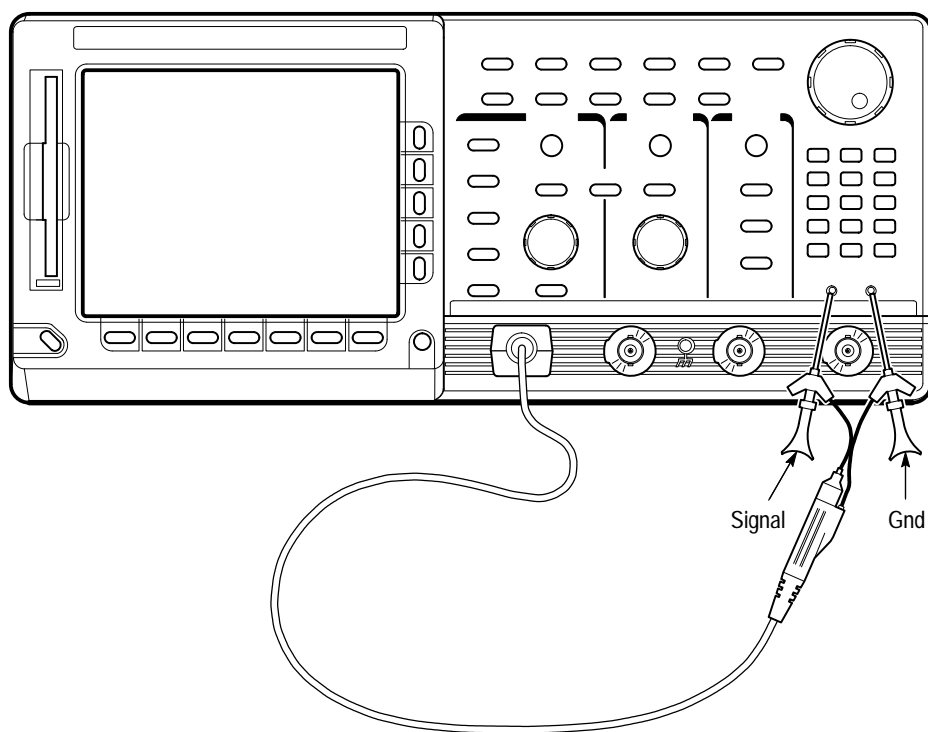

Figure 2–1: Connecting a Probe for the Examples (P6245 shown)
Remove all probes and signal inputs from the input BNC connectors along the lower right of the front panel. Then, using an appropriate probe (such as the P6245), connect from the **CH 1** connector of the oscilloscope to the **PROBE COMPENSATION** connectors. (See Figure 2–1.)
1. Press the save/recall **SETUP** button to display the Setup menu. (See Figure 2–2.)